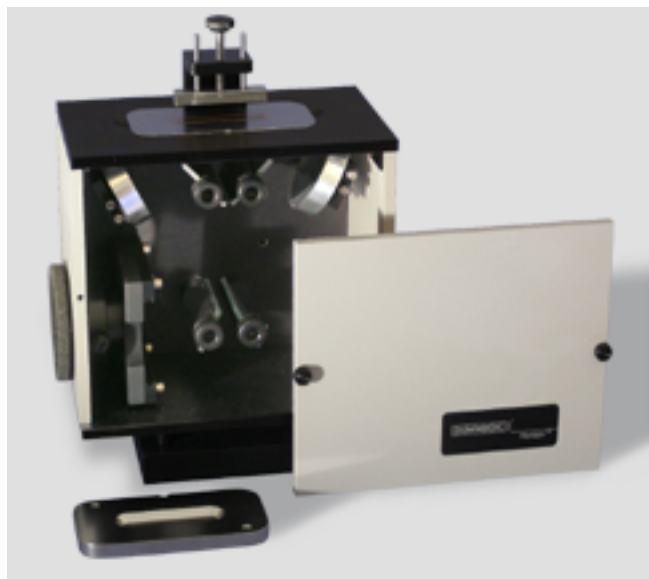
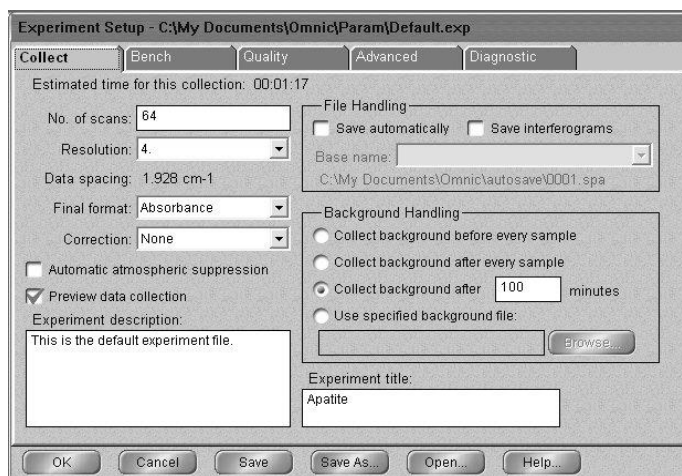

Figure 1 Horizon ATR
Figure 2 Experimental Setup in Omnic
- 1.4. The Horizon, figure 1, needs to be mounted on the base plate with the adaptor on it, Figure 2.
should see the tool bar shown in Figure 2 below.